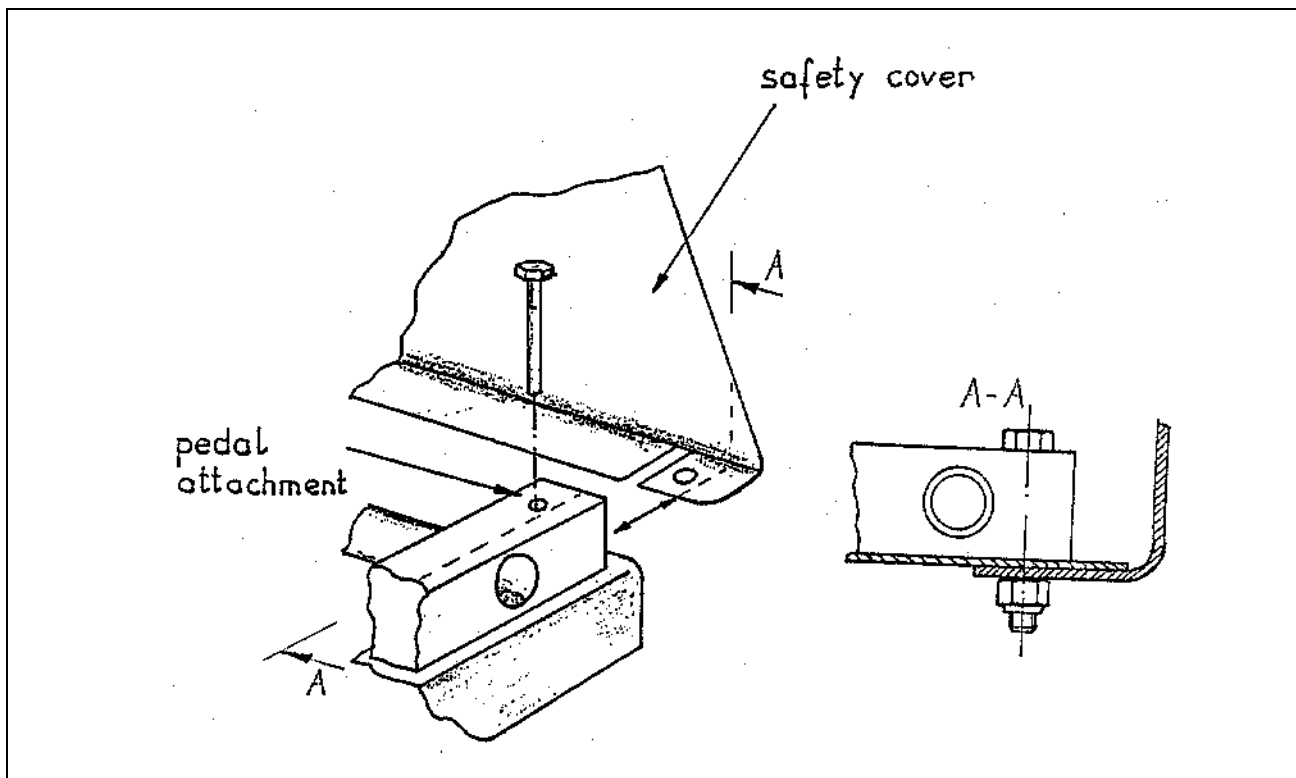

figure 2
- Refasten inner pedal traverse attachment bolts with the safety cover underneath the travers supports using new M5-stop nuts as shown in figure 2.